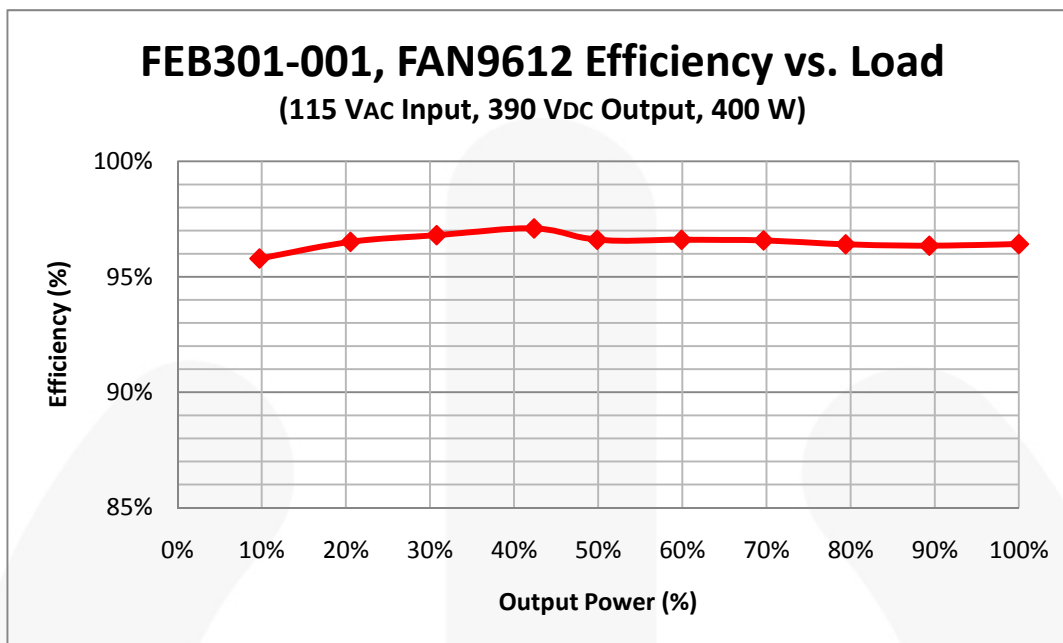

Figure 27. 115VAC / 60Hz Efficiency vs. Load
12. Figure 27 and Figure 28 show the measured efficiency of the evaluation board at input voltages of 115VAC and 230V, respectively. Since phase shedding reduces the switching loss by effectively decreasing the switching frequency at light-load, a greater efficiency improvement is achieved at high line where switching losses are greater. Relatively less improvement is obtained for low line since the MOSFET is turned on with zero voltage and switching losses are negligible.